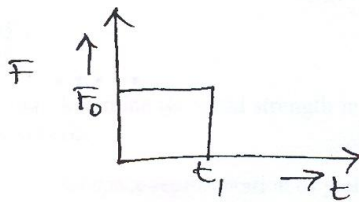

Fig.Q.2(b)
- b. Obtain the response for a spring-mass system subjected to an excitation as shown in Fig.Q.2(b). (10 Marks)